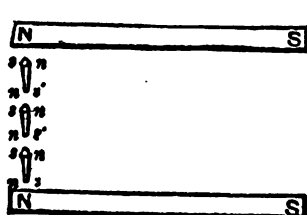

Fig. 86. Demagnetizing Inductive Effect of Like Poles.
(4) Placing the second magnet below as in Fig. 86 results in demagnetizing the nails. The left-hand letters show effect of upper magnet, the right-hand letters